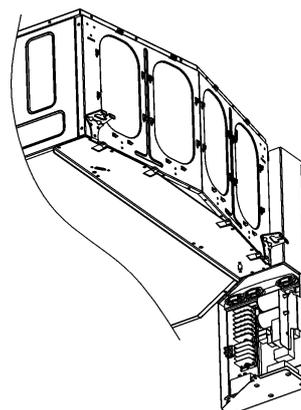

Fig. 28. Lowering the box
2. Lower the box (see Fig. 28).